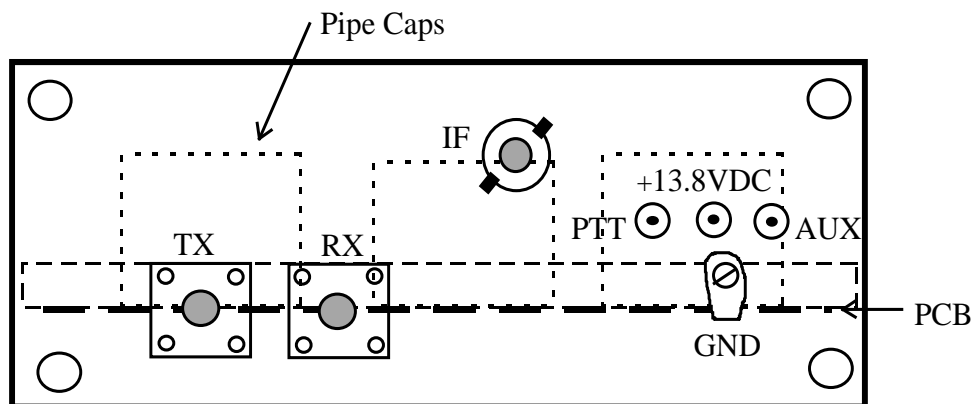

Figure 7.
13. Refer to Figure 7 and install the rear panel to the PCB by first prepping the SMA connectors so that the Teflon will not interfere with the circuit board. Do not use the SMA that was installed on the LO test point. Use the rear panel as a guide and trim the excess Teflon from the SMA's with a sharp knife. Cut the pins to 0.100" extending from the Teflon. Attach the SMA connectors to the panel with the #3-48 x 3/16" screws. (4 total) Then attach the panel to the PCB with the 5, 3-48 x 3/8" screws. Note where the ground lug is mounted. Look for any gaps or bulges between the pallet and the panel. If needed, disassemble and re-cut the Teflon on the SMA's or trim the circuit board. This "perfect mating surface" is required for the RF grounding of the SMA connectors to the pallet. Be sure of a proper interface of connector, panel and pallet. Install the BNC connector or connectors and 3 DC feed-thru connectors in the end panel. If you are using a common IF you only need one BNC connector.